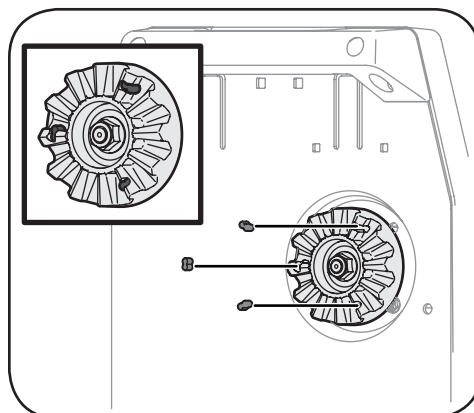

Figure 5-1
1. Gently pry each clutch bumper out of the dog clutch using a standard screw driver. See Figure 5-1.